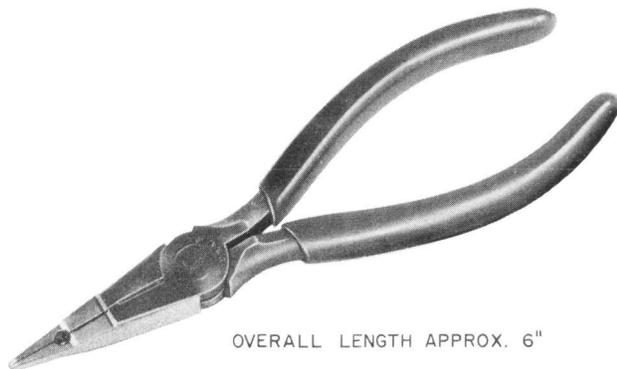

Fig. 15—KS-21257 Cut-Crush-Strip Pliers
2.15 KS-21257: The KS-21257 tools are cut-crush-strip pliers (Fig. 15). These tools are provided with side cutters, a crushing slot, and one stripping notch. These tools are used in cutting wire and for crushing and stripping irradiated polyvinyl chloride (IPVC) insulation on 22-gauge wire. When ordering, specify list number desired.